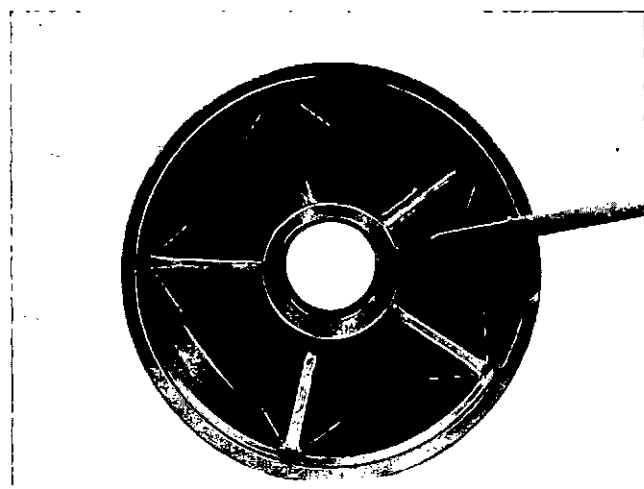

Fig. 4-17, (T465069). Inspect the bearing housing
#### 4. Bearing Housing (5), Fig. 4-17.